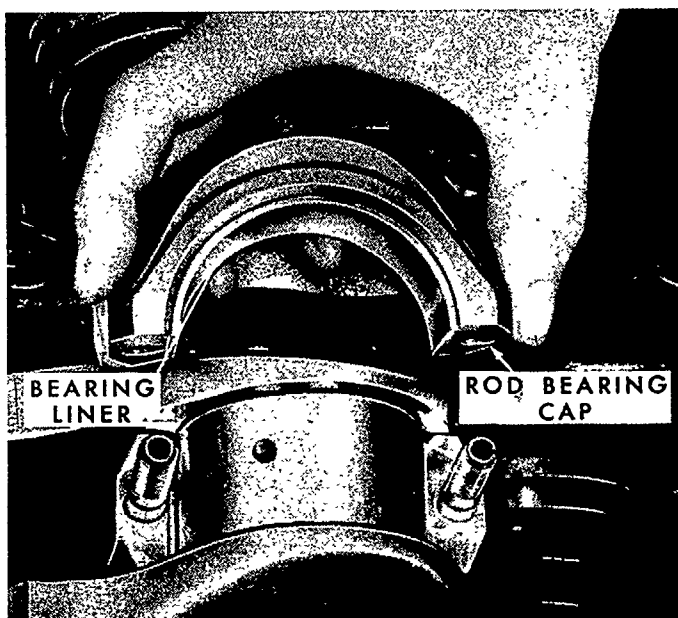

Figure 44
4. Remove the nuts from the connecting rod bearing cap bolts of the piston that is at the bottom of its stroke. Remove the rod bearing cap and liner, Figure 44, from the rod. Push the piston and rod assembly away from